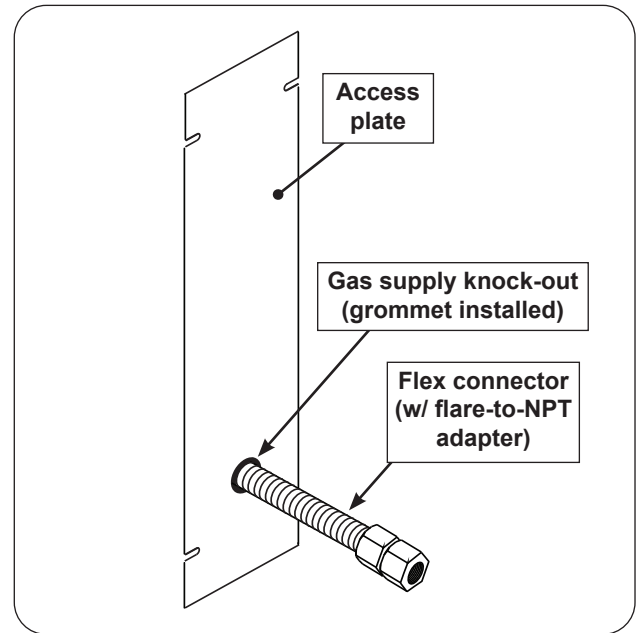

Fig. 21-1 Access plate view & install orientation
2. Remove the plastic grommet (attached to the flex connector) and insert it into the newly created opening. Then route the flex connector through the opening. See Fig. 21-1 and 21-2.